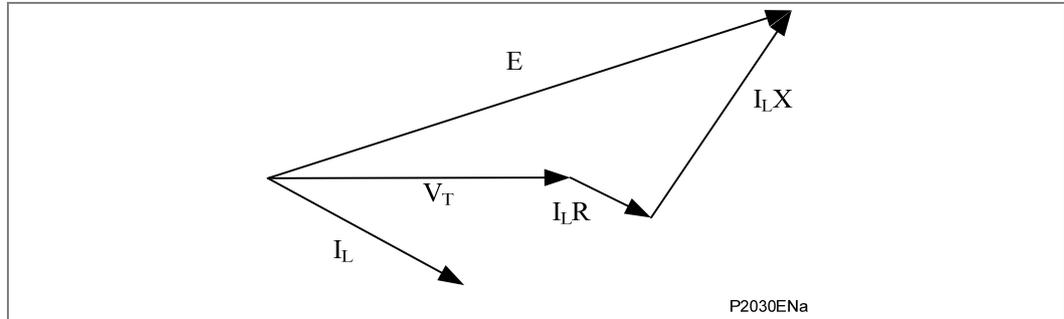
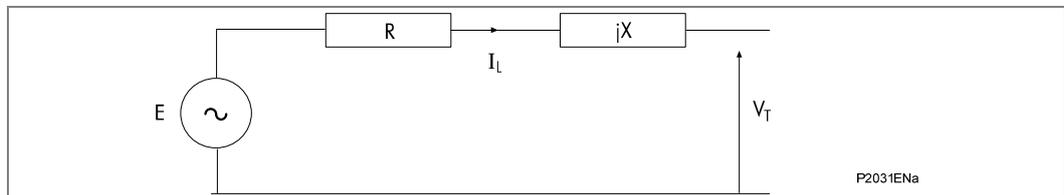
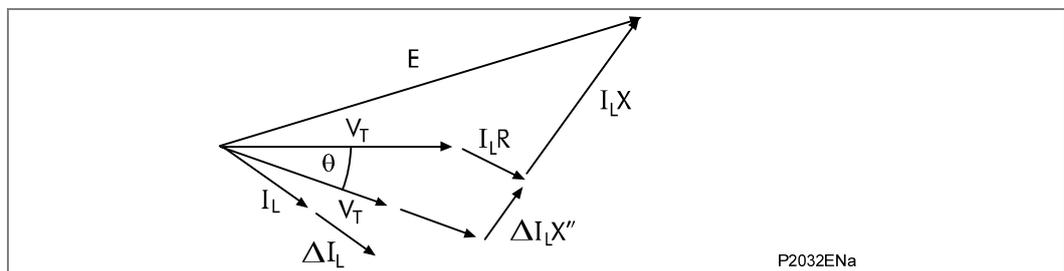

Figure 6 - Vector diagram representing steady state condition
Figure 7 - Single phase line diagram showing generator parameters
Figure 8 - Transient voltage vector change θ due to change in load current ΔI_L
To understand the relation between the resulting voltage vector angle change following a disturbance and the embedded generator characteristics a simplified single phase equivalent circuit of a synchronous generator or induction generator is shown in Figure 6, Figure 7 and Figure 8. The voltage V_T is the symmetrical terminal voltage of the generator and the voltage E is the internal voltage lying behind the machine impedance which is largely reactive (X). When a disturbance causes a change in current the terminal voltage will jump with respect to its steady state position. The resultant voltage